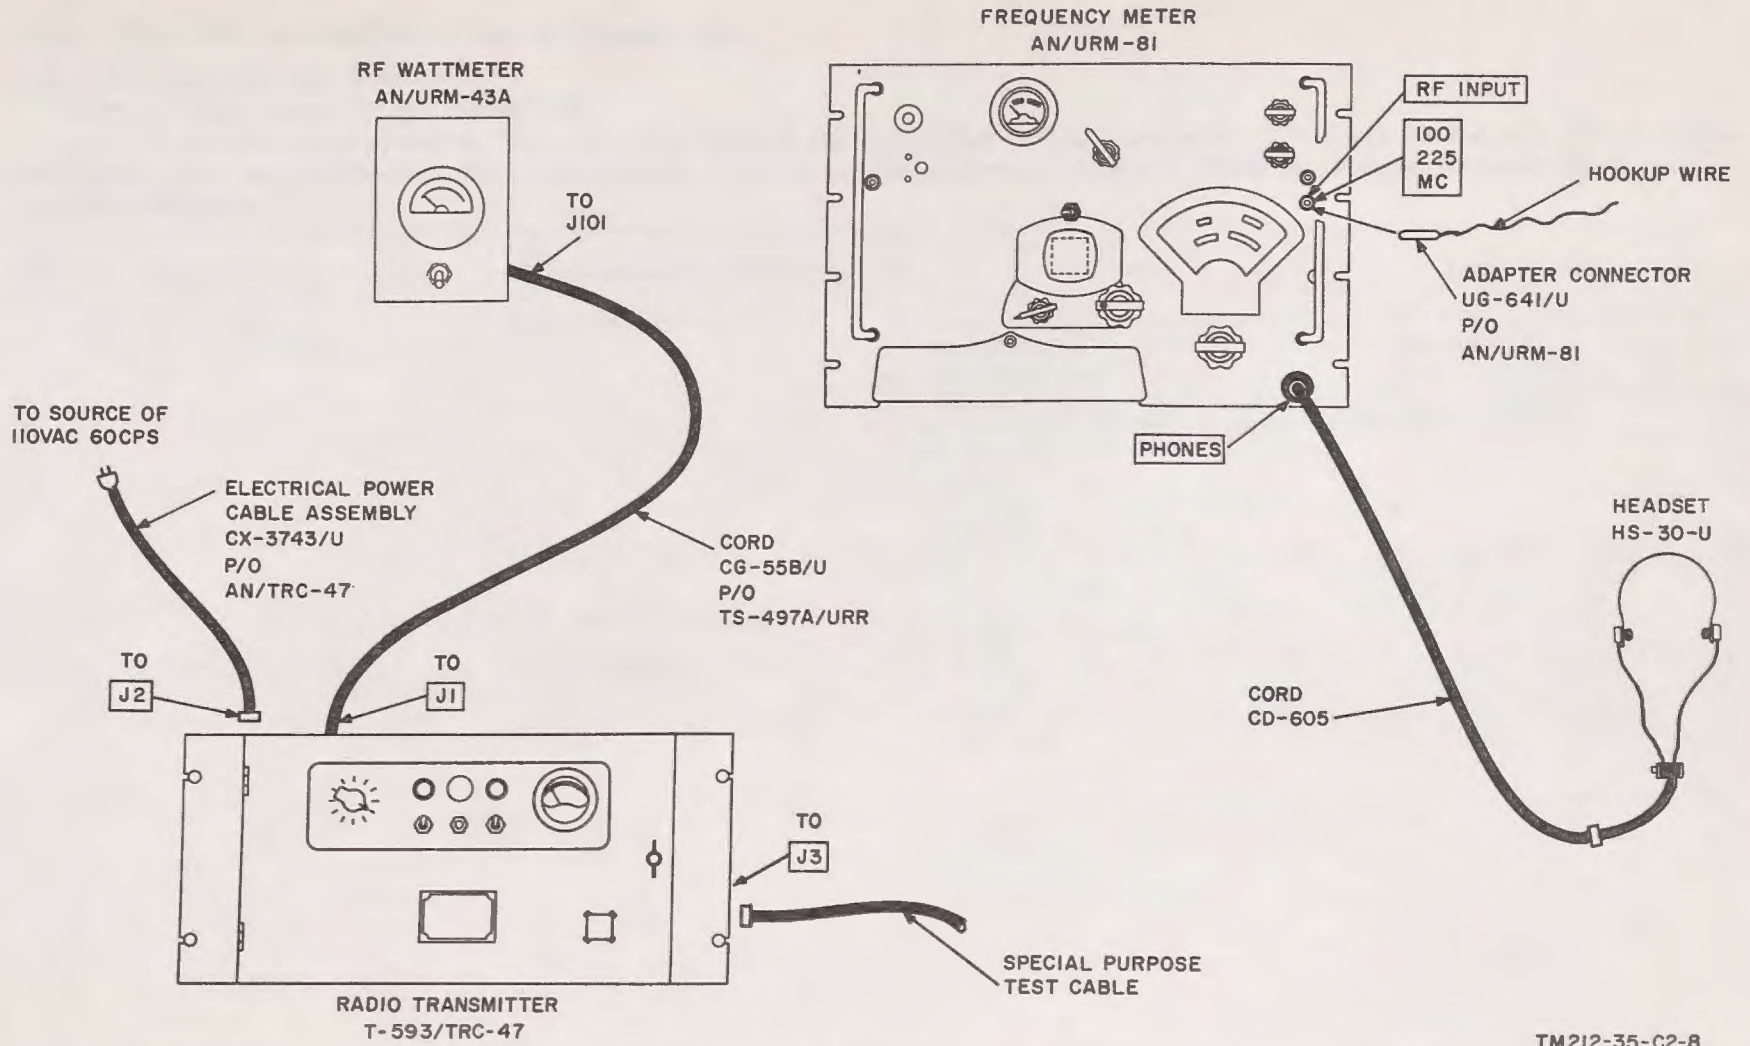

Figure 48.8. (Added) Transmitter power output and frequency tests.
b. Test Connections and Conditions. Connect the equipment as shown in figure 48.8.